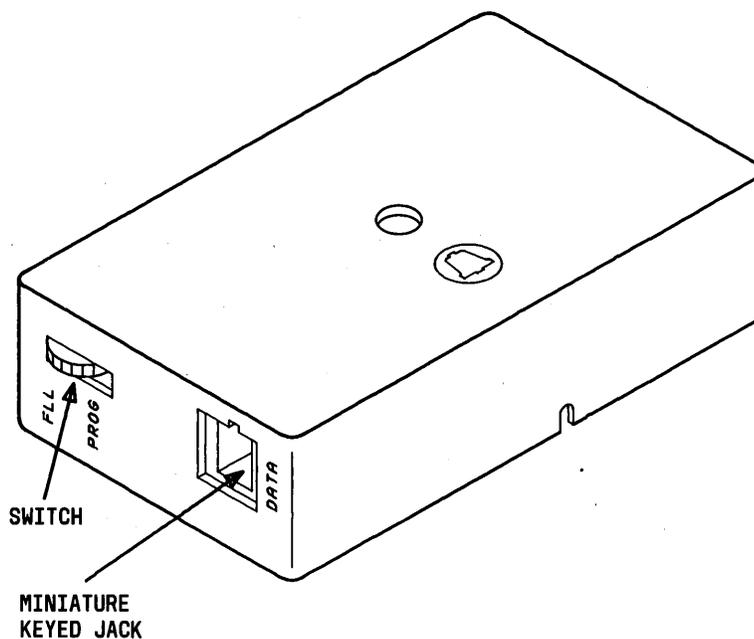
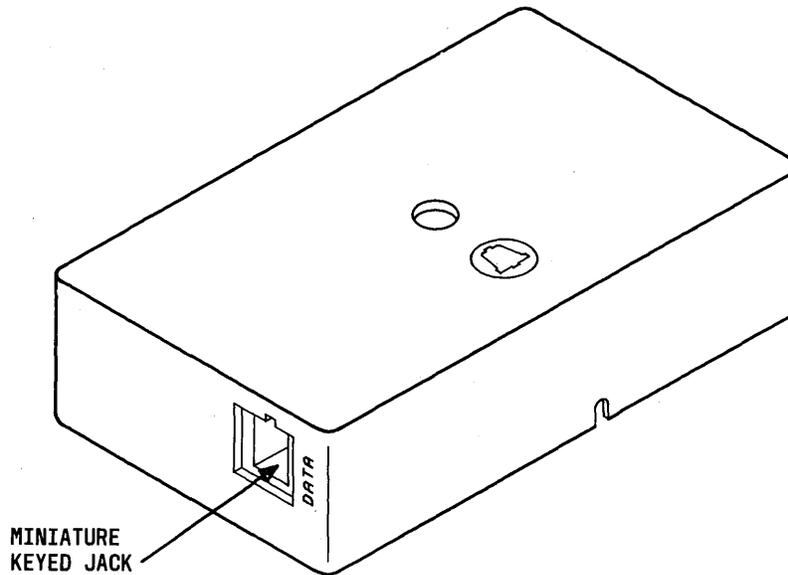

Fig. 1—97A-Type Connecting Block
Fig. 2—97B Connecting Block
2.01 The 97A-type, and 97B, 97D, and 97E connecting blocks provide a means for connecting registered data equipment to the public switched network. The 97A-type (Fig. 1) is for use with data equipment registered as either fixed loss loop type or programmed and is also referred to as the universal data jack. The 97B (Fig. 2), 97D (Fig. 3), and 97E (Fig. 4) are for use with data equipment registered as programmed, and is also referred to as the programmed data jack.